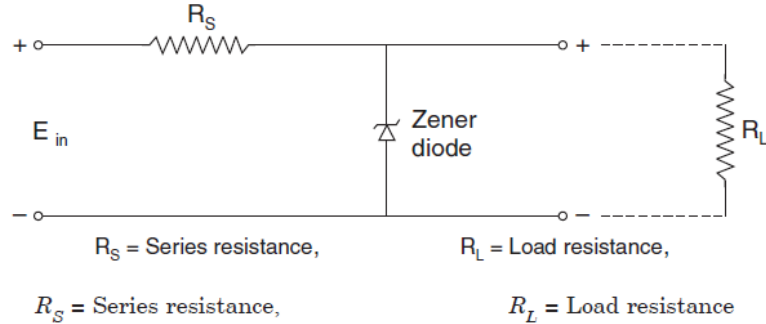
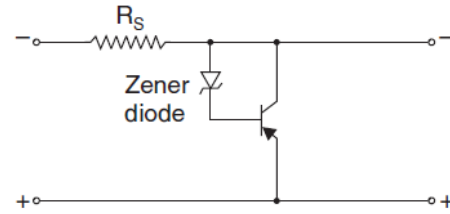

Fig. 22. Basic Zener-diode regulator circuit.
Fig. 23. Shunt transistor regulator.
The primary use of a zener diode is as a *voltage reference or regulator element*. Fig. 22 shows the fundamental circuit for the Zener diode employed as a shunt regulator. In the circuit, diode element and load  $R_L$  draw current through the series resistance  $R_S$ . If  $E_{in}$  increases, the current through the Zener element will increase and thus maintain an essentially fixed voltage across  $R_L$ . This ability to maintain the desired voltage is determined by the temperature coefficient and the diode impedance of the zener device.
The Zener diode may also be used to control the reference voltage of a transistor regulated power supply. An example of this in a shunt transistor regulator is shown in Fig. 23, where Zener element is used to control the operating point of the transistor. The advantage of this circuit over that shown in Fig. 22 are *increased power handling capability and a regulating factor improved by utilizing the current gain of the transistor*.
**Solution.** Refer to Fig. 23. Given :  $R_L = 4000 \Omega$  ;  $R = 8000 \Omega$  ;  $V_{out} = 32 \text{ V}$  ;